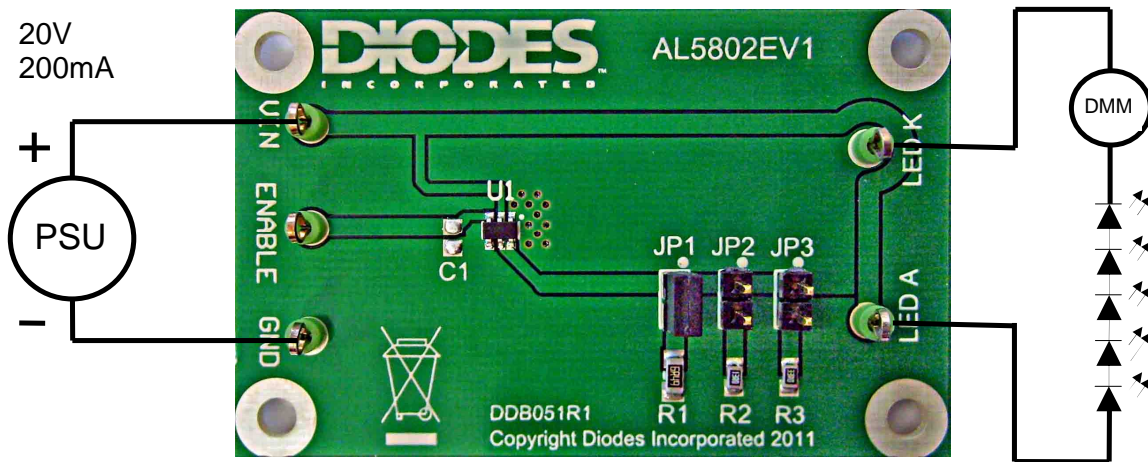

Figure 1. AL5802 evaluation board
3. Connect up the AL5802EV1 to the equipment as in Figure 1 above.